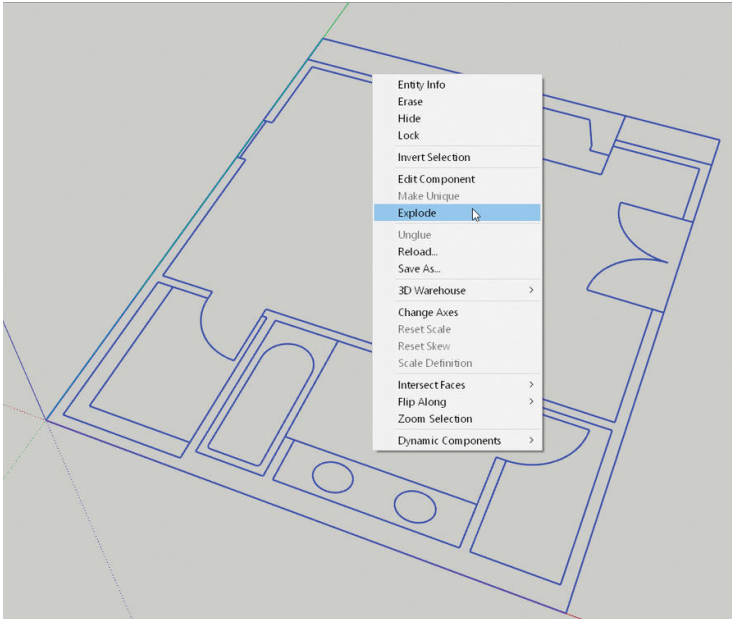

Figure 5-73: The imported DWG file.
3. Click *Open* to import the DWG file into SketchUp. A box appears showing the specific data imported. Click again and ta-da! The imported DWG file is now SketchUp geometry. It imports as a component, so right-click and choose *Explode* (Figure 5-73). If needed, scale the plan to its correct dimensions with the *Tape Measure*.